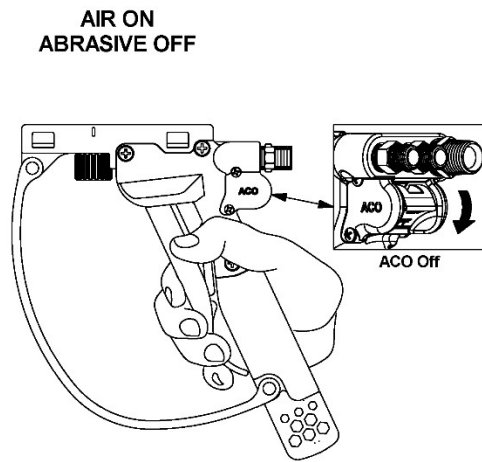
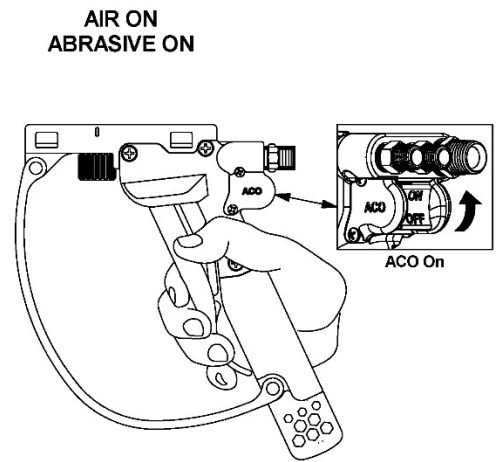

Figure 5.4
Figure 5.5
- 4.1.9 To test the G3 Trigger Deadman **2 Position w/ACO Module**, rotate the ACO switch to the "Off" position. Press down the Safety Flap (#10) and pull the Trigger (#11) to activate the deadman valve to start the AIR ONLY operation (See Fig 5.4). Release the trigger to stop blasting. Rotate the ACO switch to the "On" position. Press down the Safety Flap (#10) and pull the Trigger (#11) to activate the deadman valve to start the blast (AIR AND ABRASIVE) operation (See Fig 5.5). Release the trigger to stop blasting.
- 4.2.7 To test the G3 Trigger Deadman **2 Position w/ACO Module**, rotate the ACO switch to the “Off” position. Press down the Safety Flap (#10) and pull the Trigger (#11) to activate the deadman switch to start the AIR ONLY operation (See Fig 5.4). Release the trigger to stop blasting. Rotate the ACO switch to the “On” position. Press down the Safety Flap (#10) and pull the Trigger (#11) to activate the deadman switch to start the blast (AIR AND ABRASIVE) operation (See Fig 5.5). Release the trigger to stop blasting.
- 5.14.1 Rotate the ACO switch to the “Off” position if you want AIR ONLY exiting the blast nozzle (Figure 5.4).
- 5.14.2 Rotate the ACO switch to the “On” position if you want AIR AND ABRASIVE exiting the blast nozzle (Figure 5.5).